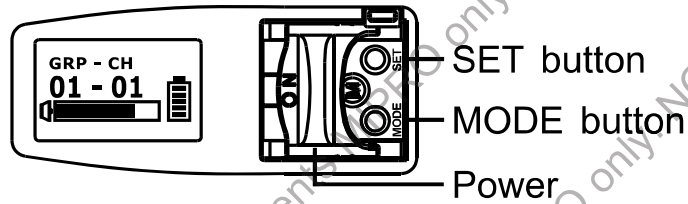

Fig. 3
- (A) Push the power switch upward to turn on. The LCD panel glows when power on. Push the power switch downward to turn off. Fig. 3, 4
3. Press SET button, the parameter blinks, press SET button again to change the parameter. Fig. 3